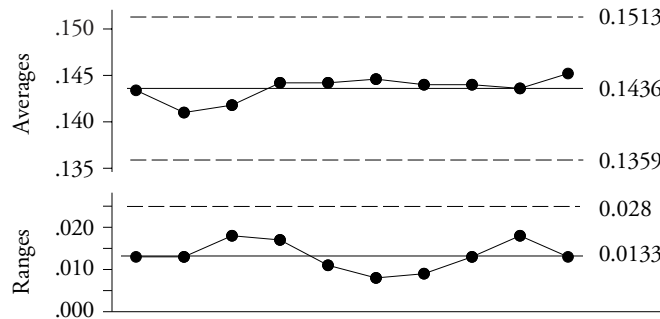
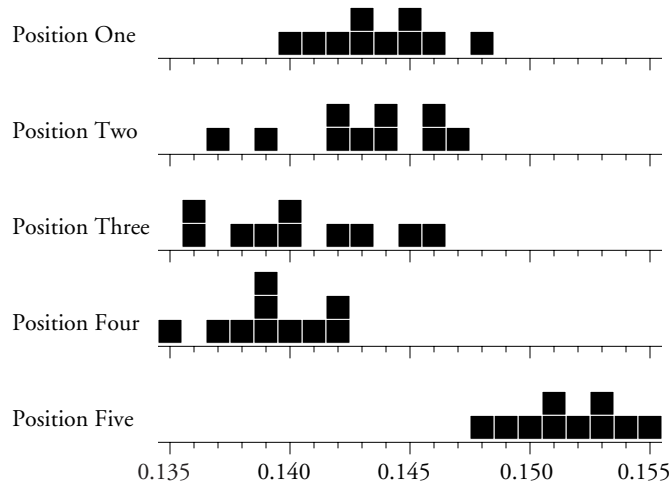

Figure 10: Average and Range Charts for Solder Paste Thickness
Figure 11: Histograms for Solder Paste Thickness for Each of the Five Positions
**Example Ten:** Another supplier sampled solder paste thicknesses at five locations on a printed circuit board (PCB). They used the five values from a single PCB as a subgroup and created an Average and Range Chart. This time they plotted the data but didn't take the correct action, because they failed to correctly diagnose the Average and Range Chart shown in Figure 10.
When they averaged the solder paste thickness for the five sites on the PCB they masked the individual site thicknesses. The Average and Range Chart shows the data hugging the central line, which is an indication of possible stratification. Stratification occurs when each subgroup combines values that are systematically different, and the high values average out with the low values, making both the Ranges and Averages “hug” their central lines. While Figure 10 looks like the process is in control, it is not a true representation of the process.
If we look at the five individual sites on the PCBs in Figure 11 we see that Position 5 has consistently higher thickness values than the other four locations. With this understanding of the Solder Paste Thicknesses you can adjust specific nozzles and pressures to eliminate these differences. The problem with the Average and Range Chart in Figure 10 is inappropriate subgrouping. Whenever you subgroup two values together you are making a judgment that those two values were collected under essentially the same conditions. When unlike things are subgrouped together the Average and Range Chart will fail to deliver the message contained within the data. *Plot the data properly. Take action.*